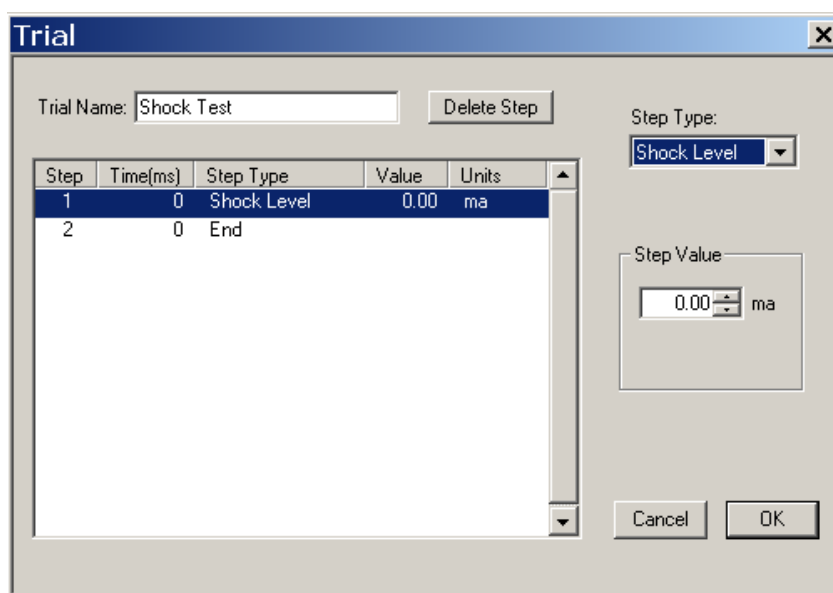

Figure 48 Step-by-Step Example 2
3. Select **Shock Level** from the **Step Type** menu. The **Trial** screen will appear as shown in Figure 48.